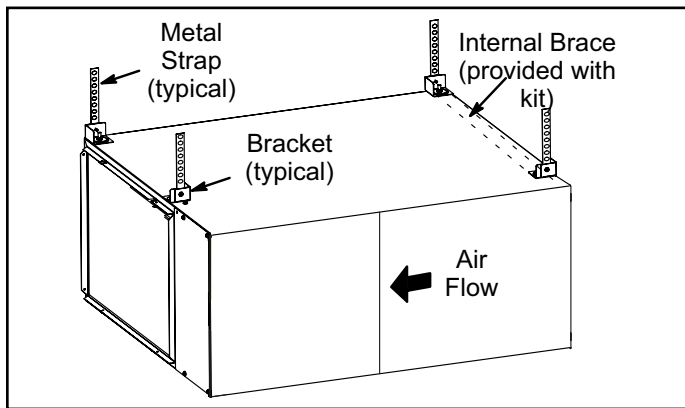
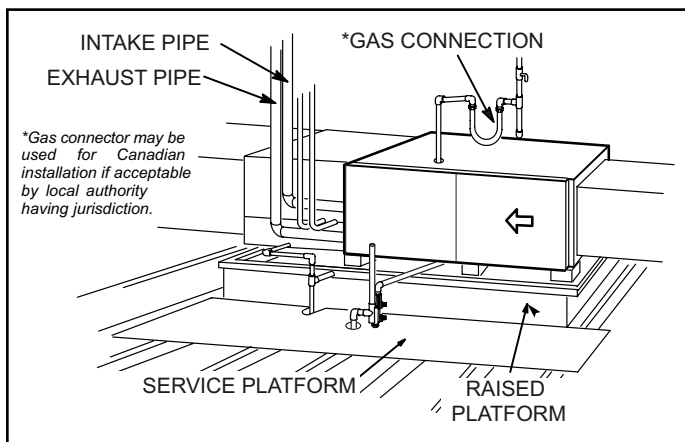

Figure 18. Horizontal Suspension Kit
Figure 19. Platform Installation
This furnace may be installed in either an attic or a crawlspace. Either suspend the furnace from roof rafters or floor joists, as shown in Figure 18, or install the furnace on a platform, as shown in Figure 19. A horizontal suspension kit (51W10) may be ordered from GEA or use equivalent.
2. Construct a raised wooden frame and cover frame with a plywood sheet. If unit is installed above finished space, fabricate an auxiliary drain pan to be installed under unit. Set unit in drain pan as shown in Figure 19. Leave 8 inches for service clearance below unit for condensate trap.